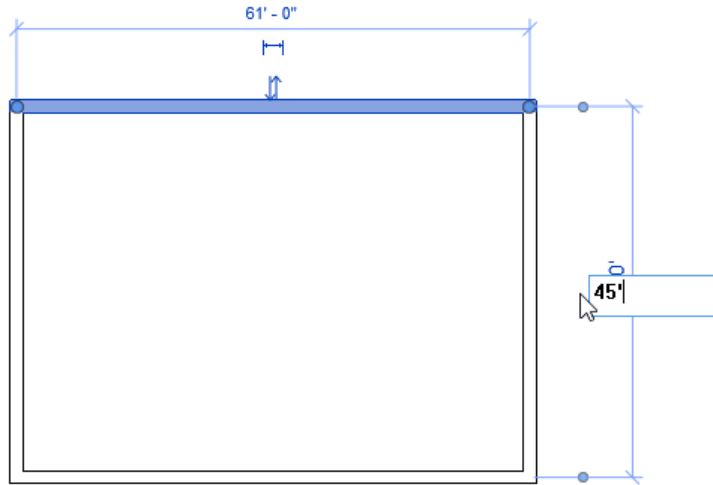

Figure 3-78 Entering vertical dimension in the edit box
6. Click on the vertical temporary dimension and enter **45'**(13716 mm) in the edit box displayed, as shown in Figure 3-78 and press ENTER.